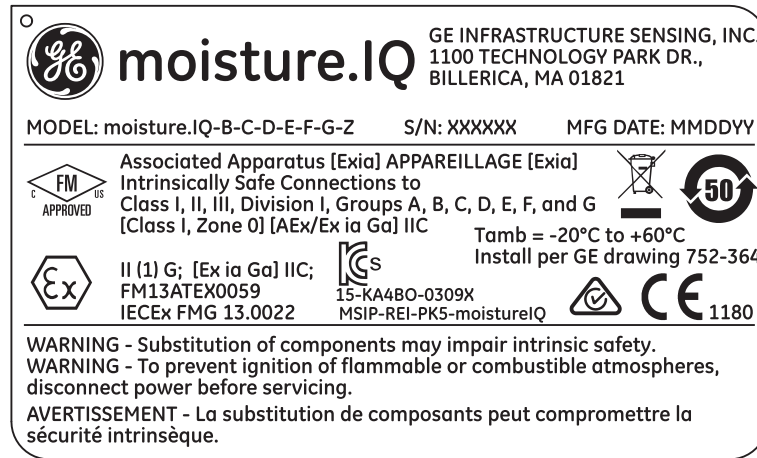
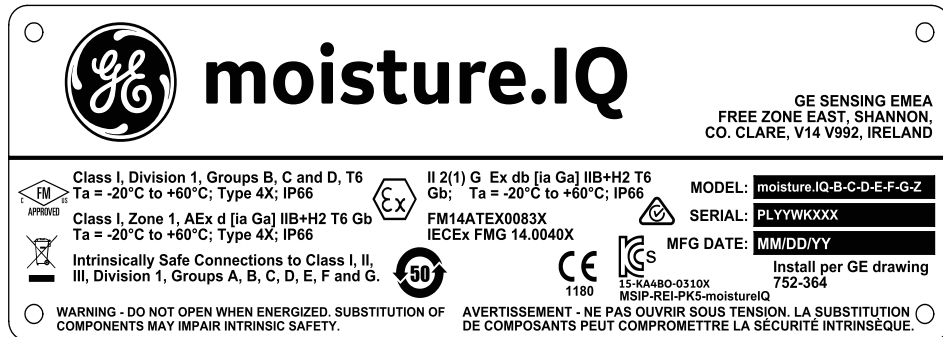

Figure 15: Product Chassis Label - Boston (ref. dwg. 442-1492-01_D)
Figure 22: Explosion-Proof Certification Label -Shannon (ref. dwg. 442-1855-02_F)
- Markings shall appear on the product as shown in *Figure 15* below through *Figure 22* on page 11.